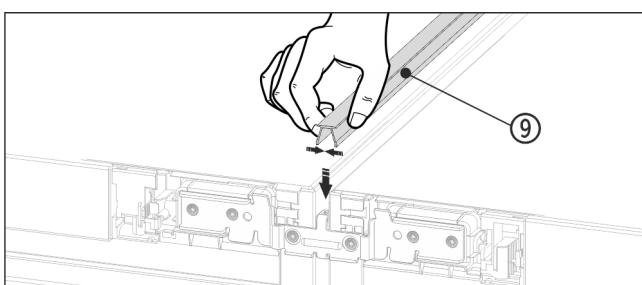

Fig. 17
- ▶ On the top press the short cover strip Fig. 17 (9) into the horizontal gap.